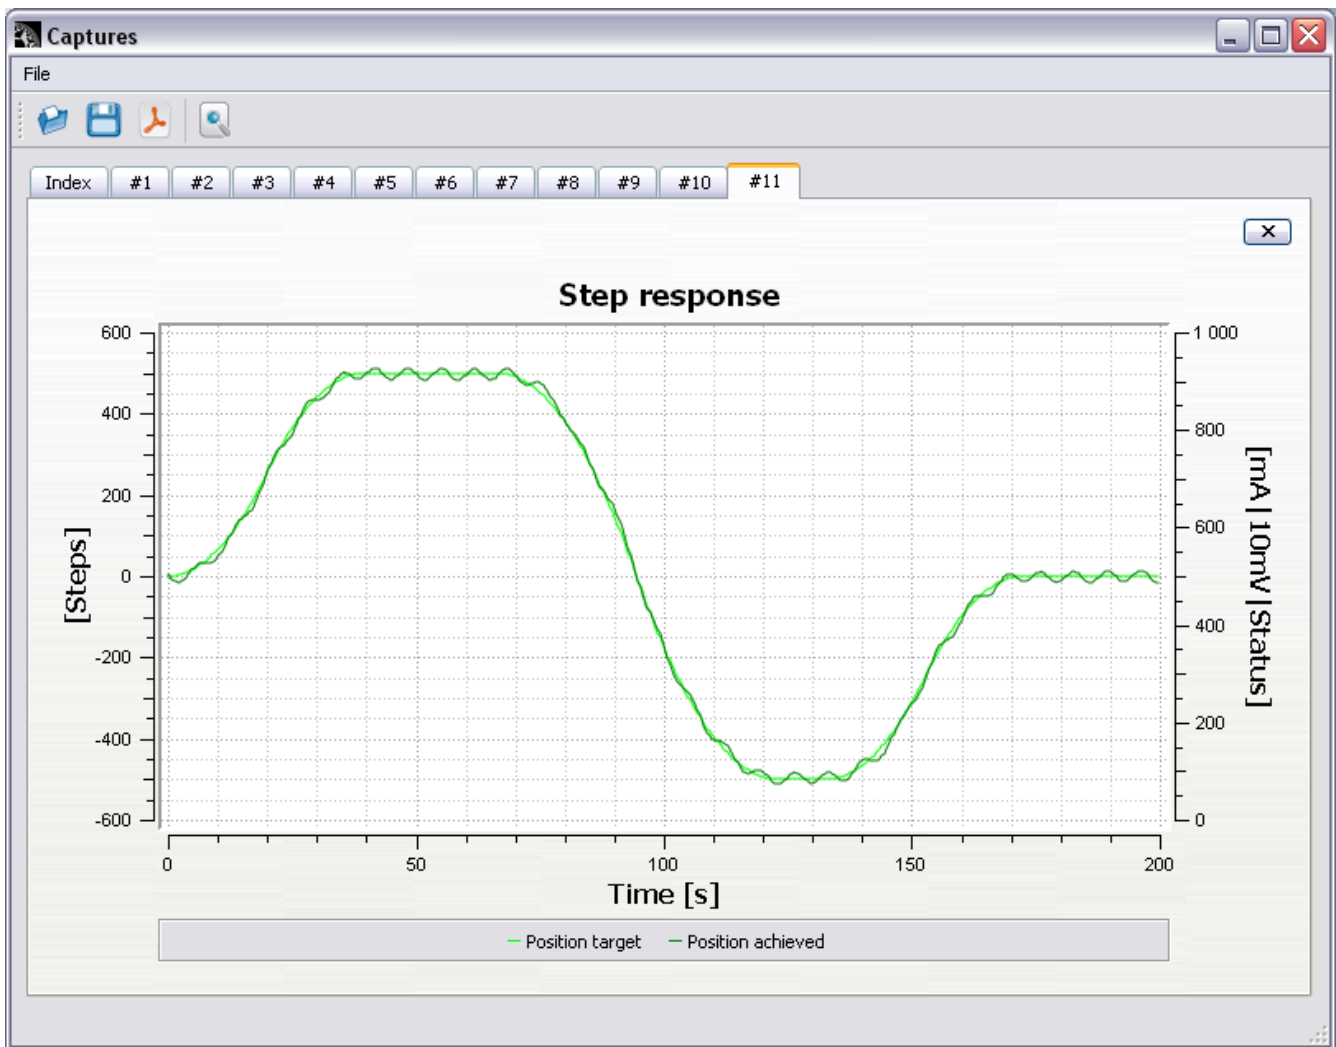

Figure 11: Too high position P-gain
- If you are getting oscillation or overshooting or noisy control, like in Figure 11, decrease **Position P** gain and return to step 9.